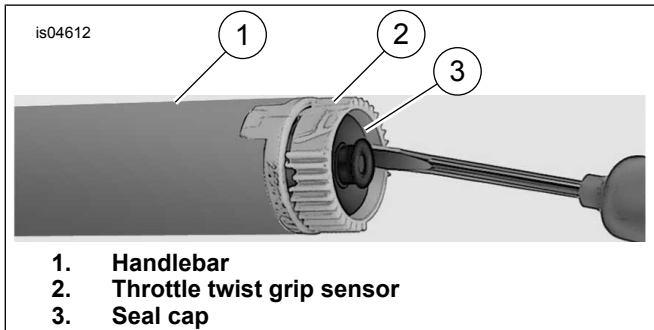

Figure 2. Remove Seal Cap
- See Figure 2. Insert a small screwdriver or other flat-blade tool into flat area on one side of seal cap.